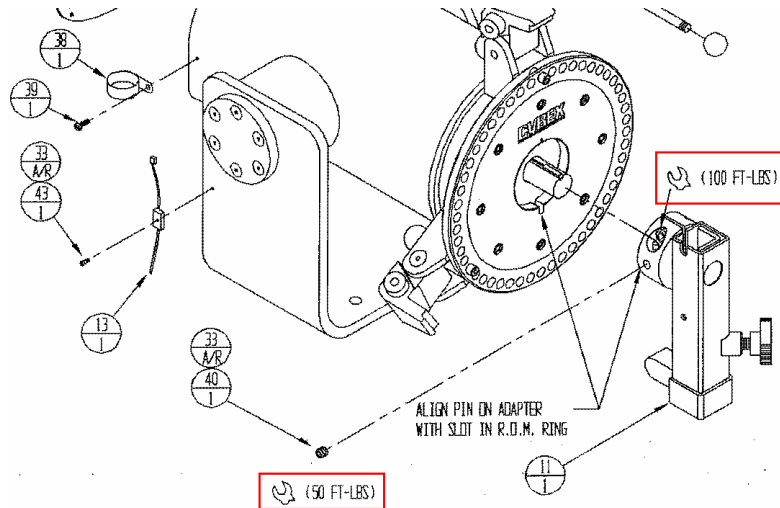

Figure 8 Input Adapter Installation Torque
- 2.34. Tighten the large input adapter bolt to 100 FOOT-POUNDS (135 NEWTON-METERS) (Figure 8).
- 2.35. Apply blue Loctite to the input adapter set-screw and tighten to 50 FOOT-POUNDS (67 NEWTON-METERS). (Figure 8, Items 33, 40).